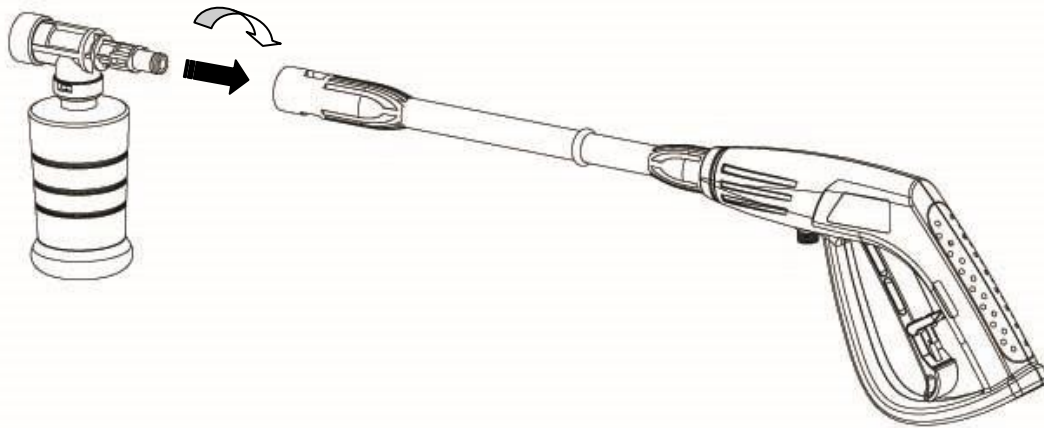

Fig.12
1. Open the cap and fill the reservoir with your preferred pressure washer detergent. Assemble the detergent bottle on the spray gun.(Fig. 12).